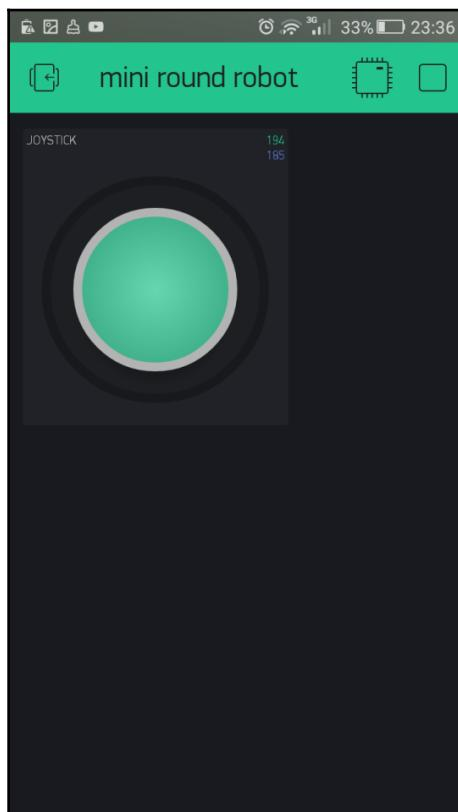

Figure 2.34: The joystick widget in play mode
2. Move the joystick to forward, backward, left, and right by tapping and holding the center circle (*Figure 2.34*). When you release the center circle, it will automatically come back to the center and apply a break on the mini round robot: